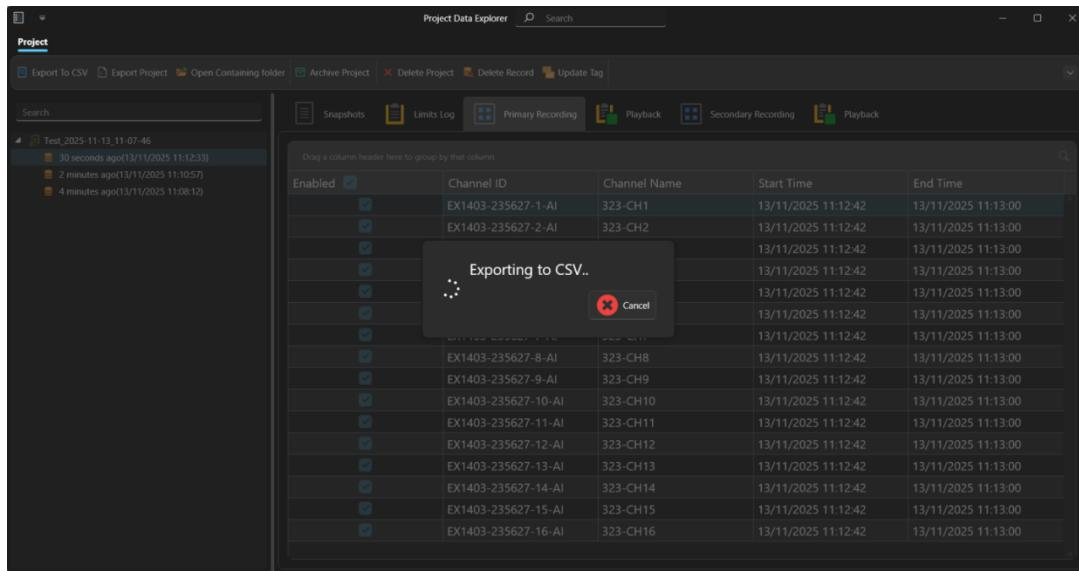

Figure 33. Exporting Data
5. The data acquisition should be stopped prior to exporting the data. Select the preferred channels and click on the **Export to CSV** button. Refer to Figure 33.